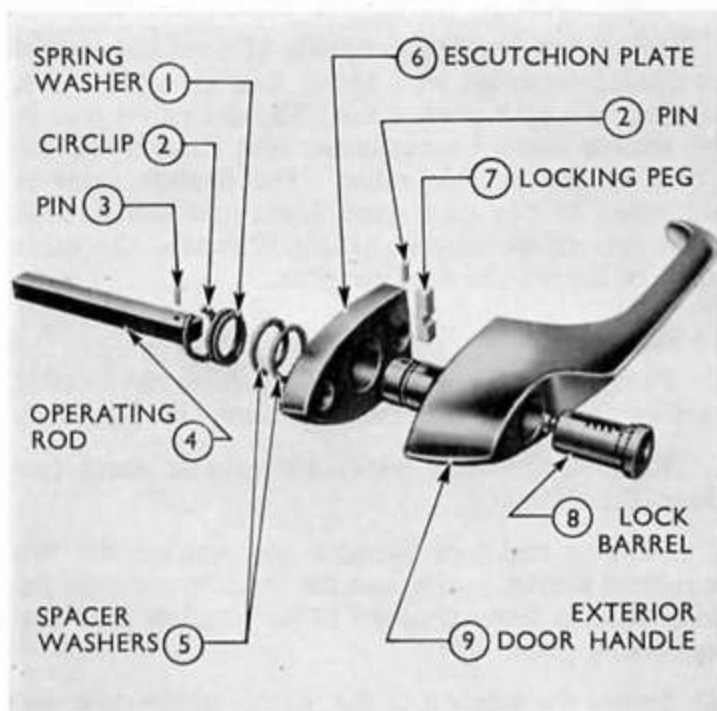

Fig. 8
2. Remove the circlip, spring and spacer washers from the door handle boss and withdraw the escutcheon plate from the handle (see Fig. 8).
4. Tap out the pin securing the lock barrel in the door handle and remove the barrel (see Fig. 8).
5. Remove the locking peg from the door handle boss (see Fig. 8).